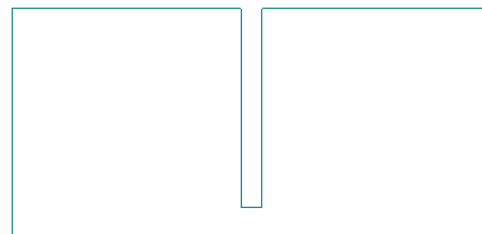

Figure 18. Sketch for base mounting holes
33. Shift-W to see this in orthographic format as in figure 18.